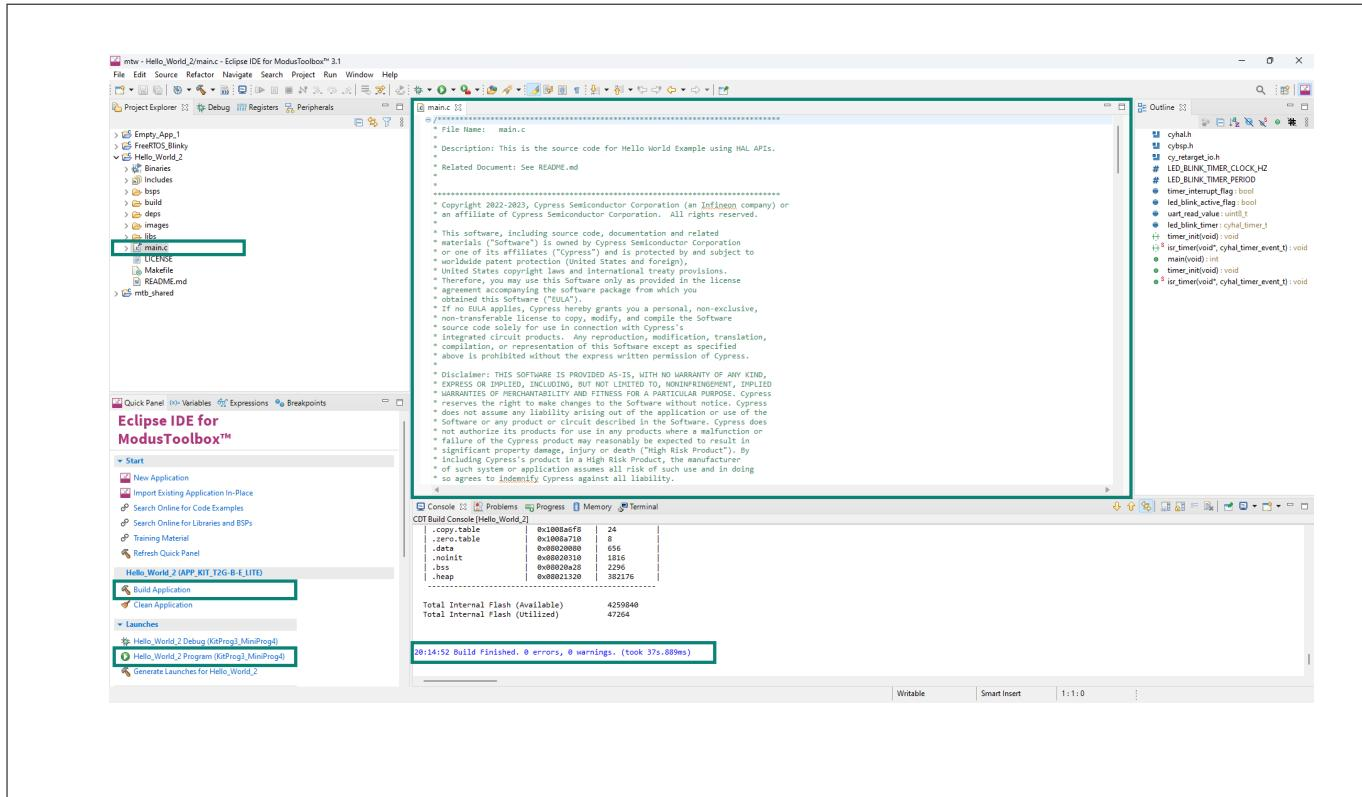

Figure 11 Building and then programming the LED Blink code
6. Once the project is created successfully, go to the “Project Explorer” and expand the **Hello_World** project and see the *main.c* file (as shown in Figure 11)